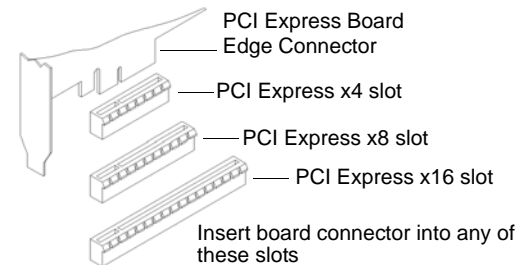

Figure 2. PCI Express Serial Bus Slots
2. Locate a free PCI Express bus slot (see Figure 2).
The PCI Express slots in the computer chassis appear as black slots. The TR1034 Analog board has a PCI Express board edge connector. It can be inserted into any one of the PCI Express slots shown in Figure 2.